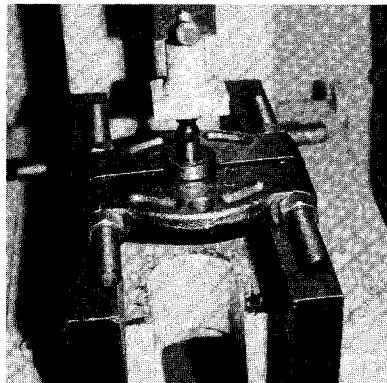
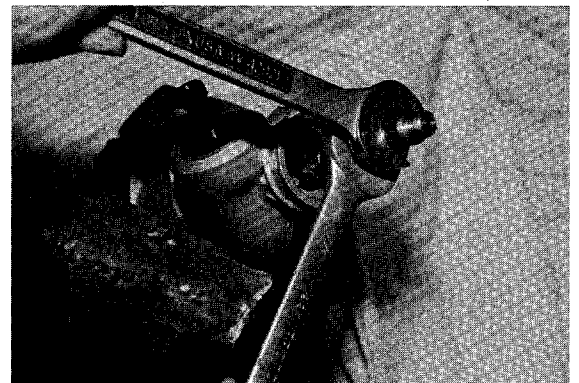

Figure 12-12
Figure 12-13
11. If ball bearing (28) has been damaged, remove external snap ring (36) and press bearing off (Figure 12-12).
12. To remove rack (9) from housing (25), bend edges of washer (2) out.
13. Using two wrenches, one wrench on the rack (9) and one on the bolt stopper (1), remove bolt stopper from rack (Figure 12-13).
14. Remove the tie rod lockwasher (2) and the washer (3). Slide rack (9) out.
15. If ball joint (10) is excessively worn, remove ball joint (10) from rack (9) using two wrenches.